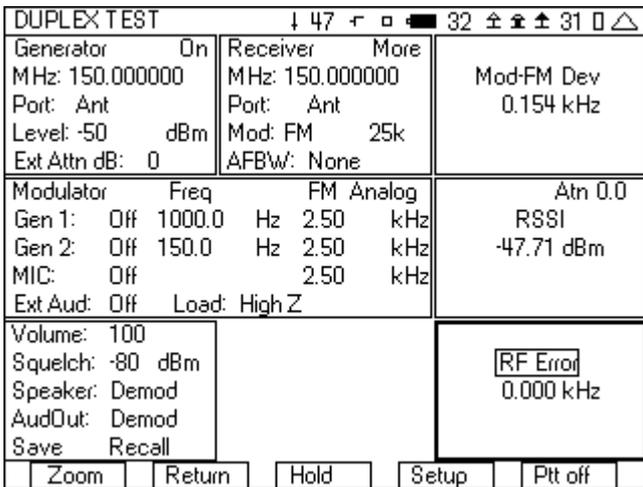

Figure 19 - Duplex test screen with RF Error meter
- When the desired meter is selected, the first softkey should be named "Zoom". Press the first softkey. Figure 19 shows the cursor on RF Error with the first softkey labeled "Zoom".